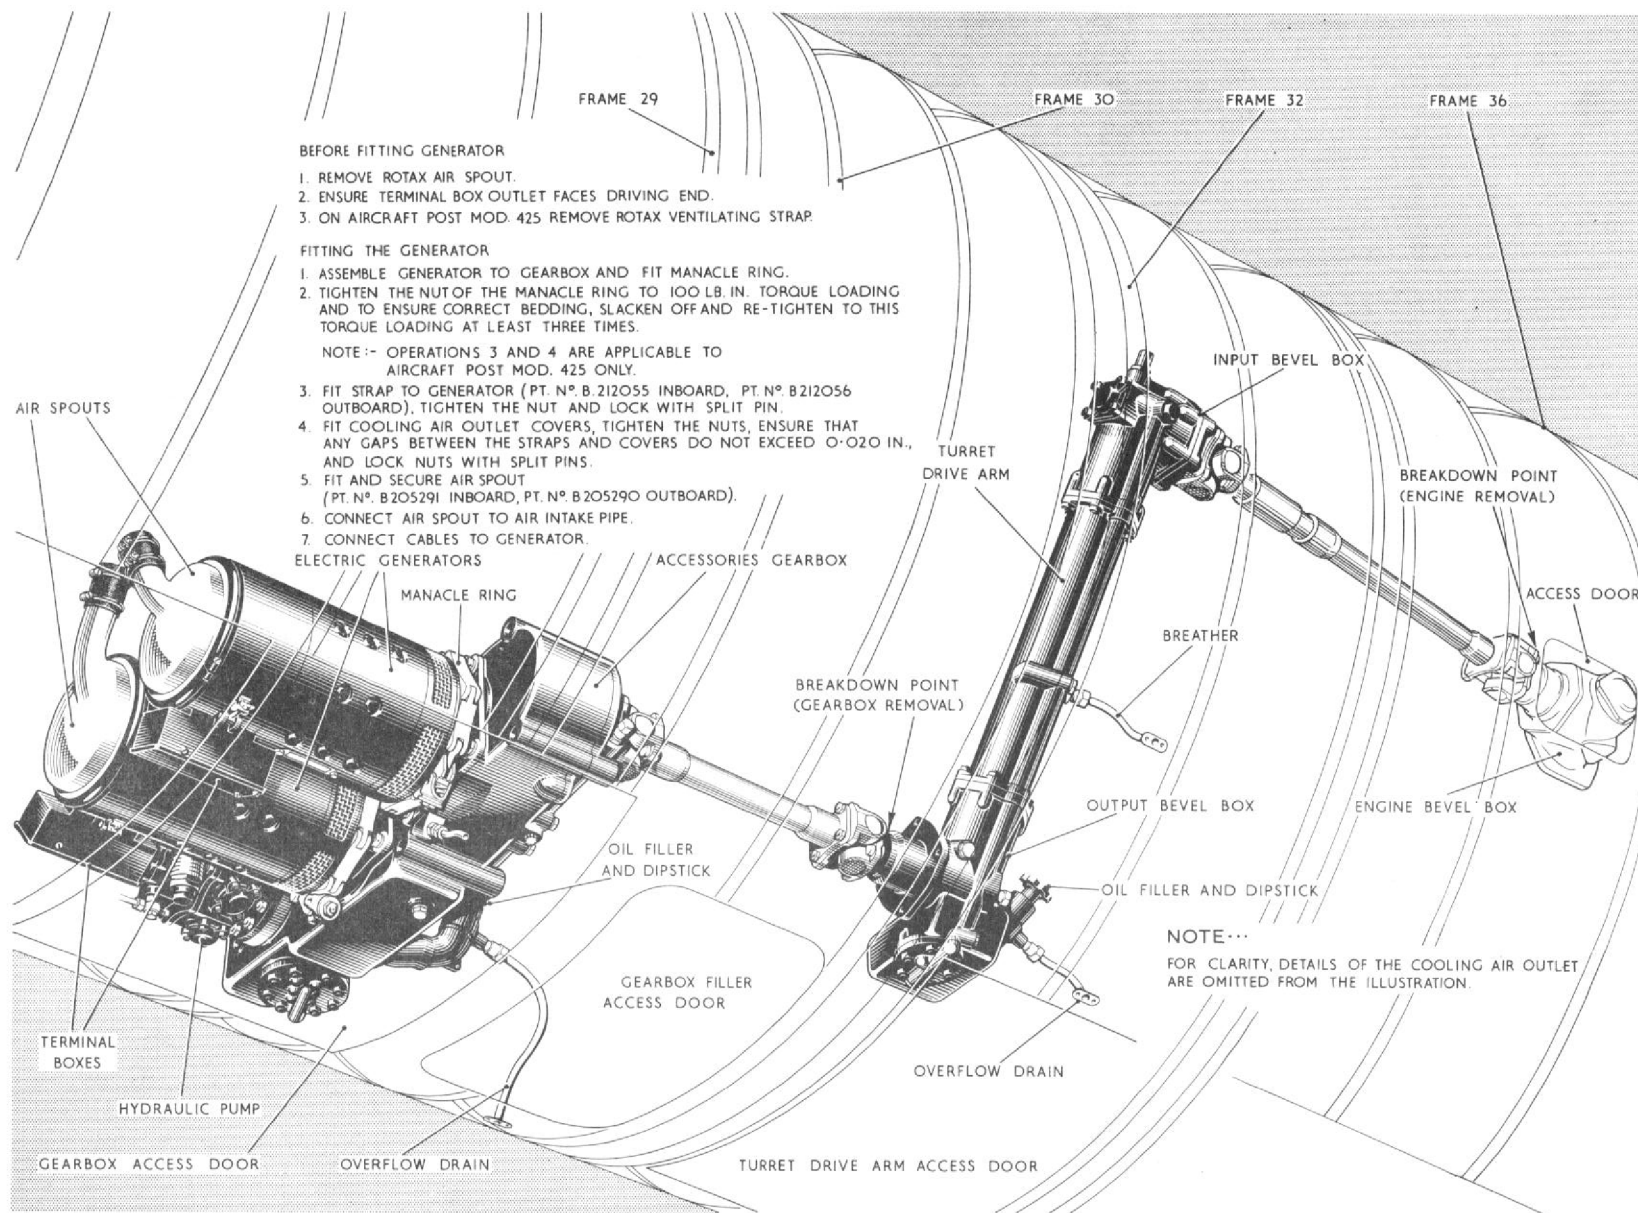

Fig. 2. Accessories gearbox
**Accessories gearbox and drives (fig. 2)**